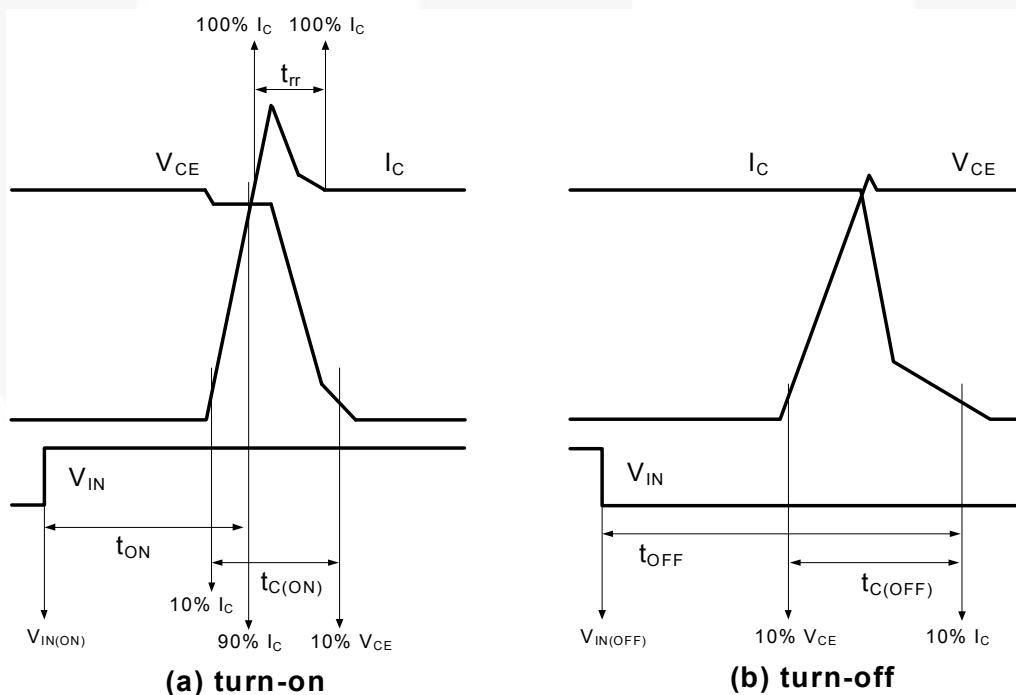

Figure 4. Switching Time Definition
6. t_{ON} and t_{OFF} include the propagation delay of the internal drive IC. $t_{C(ON)}$ and $t_{C(OFF)}$ are the switching times of IGBT under the given gate-driving condition internally. For the detailed information, please see Figure 4.